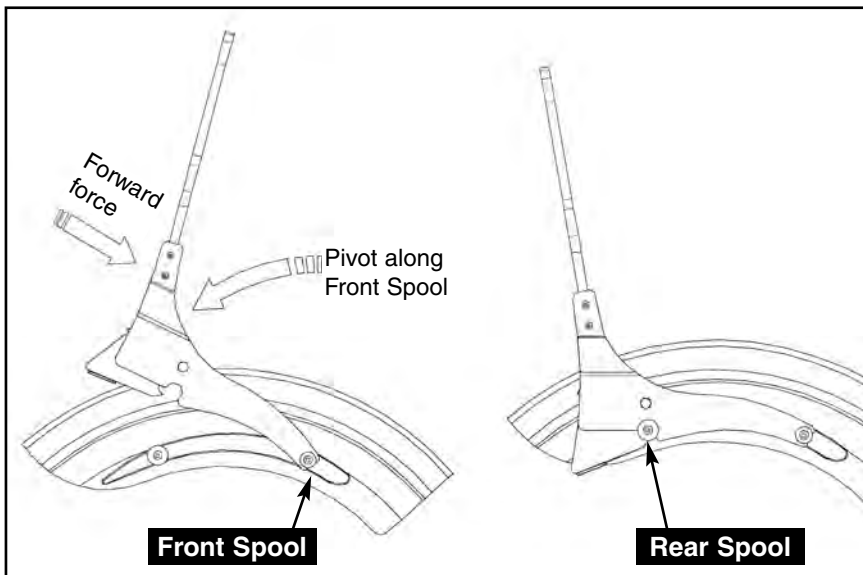

Figure 4
7. Check that the QuickSet™ System is unlocked. Install Backrest assembly onto motorcycle by first positioning Side Plates on Front Spools. With smooth continuous forward force, pivot the Backrest assembly downward onto the Rear Spools while pushing down firmly to engage both Side Plate latch mechanisms with the Rear Spools. **Figure 4.**